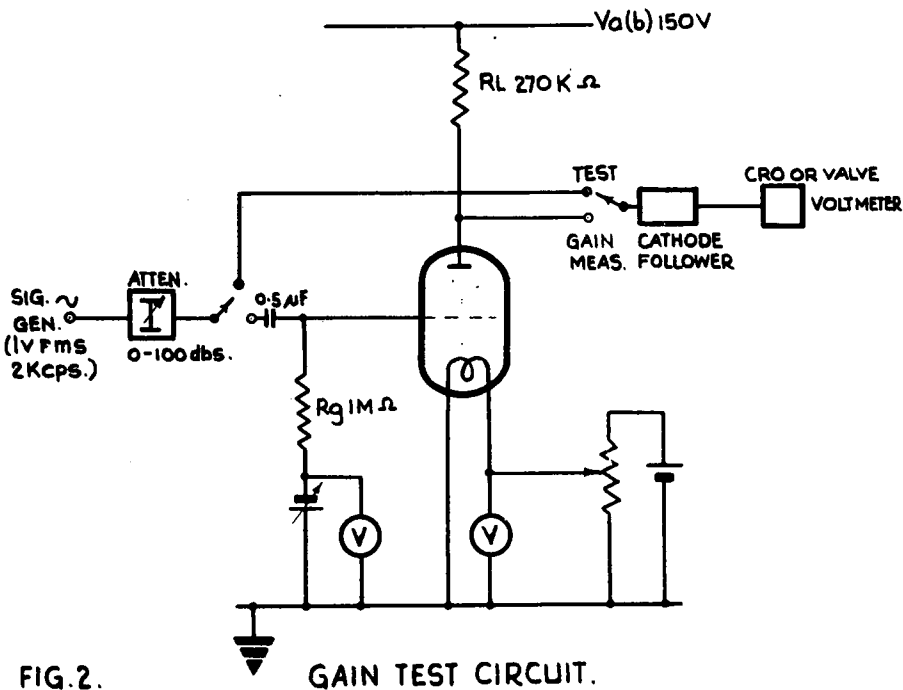

FIG.2. GAIN TEST CIRCUIT.
3. A typical circuit for the measurement of voltage gain is shown on page 6, Figure 2.